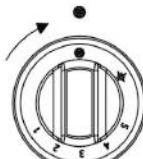

Fig. 6
- To completely turn off the pilot burner, press the knob again and turn it to the closed position. (Fig. 6)